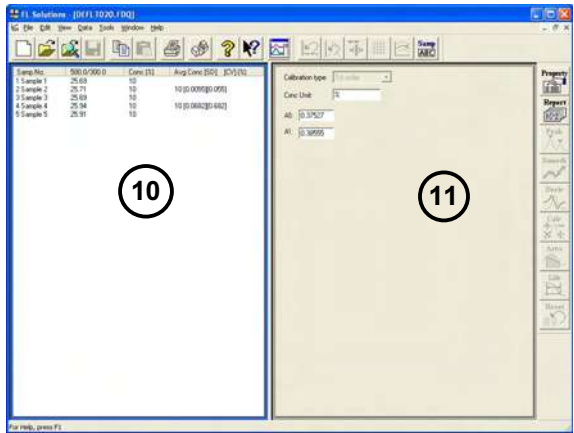

Fig. 1-39
- On sample measurement with a calibration curve generated through factor input, a window as shown in Fig. 1-39 will appear.